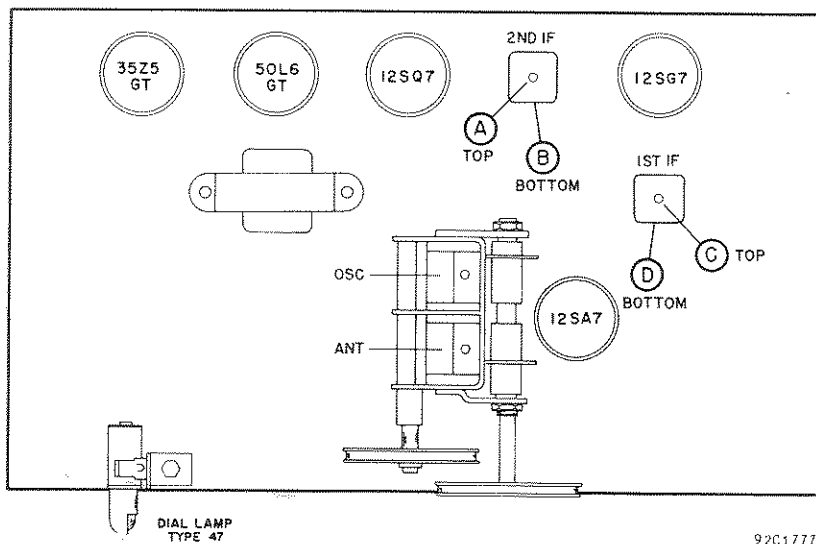

Fig. 3. Top View of Chassis Showing Location of Alignment Adjustments, Tubes and Dial Lamp
Refer to Fig. 3 for the location of the tubes and dial lamp used in the receiver. To gain access to the tubes and lamp, remove the back cover from the cabinet. Before attempting to make any replacement, set the BAND SPREAD control fully clockwise and the TUNING control fully counter-clockwise to prevent damage to the tuning gang. To replace a tube, insert the center guide pin into the center hole of the tube socket, rotate the tube until the key drops into position and then push down until the tube is held firmly in the socket. To make a dial lamp replacement, unclip the dial lamp socket from the mounting clip. Make replacement only with a type 47 pilot lamp.
- See Figs. 3 and 4 for location of alignment adjustments.